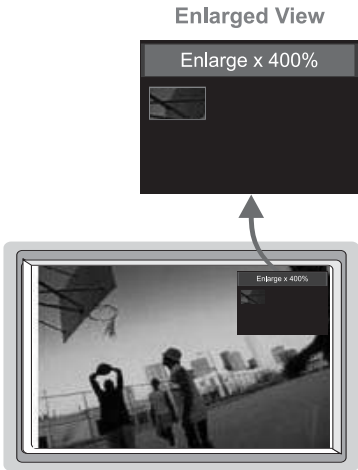

Figure 18: OSD Enlarge Status
The zoom ratio and the zoom position are illustrated by a small rectangle inside a transparent pop-up OSD Enlarge status box that appears at the top right corner of the screen, as the example in Figure 18 illustrates:
- Using the Zoom + and/or the Zoom - control keys¹ on the infra-red remote control transmitter (see Figure 42). The pop-up OSD Enlarge status box continuously displays the zoom ratio and position, as Figure 18 illustrates